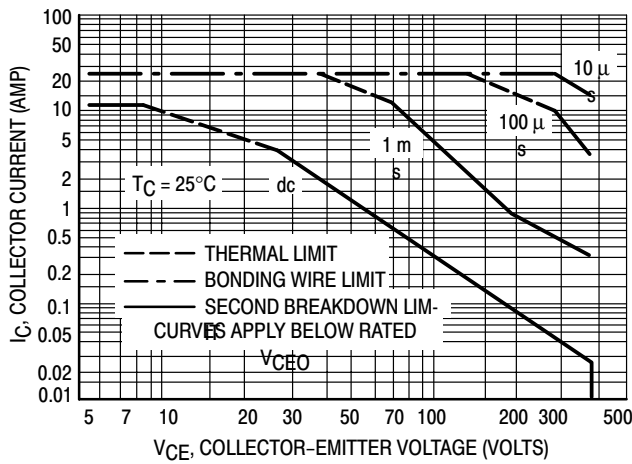
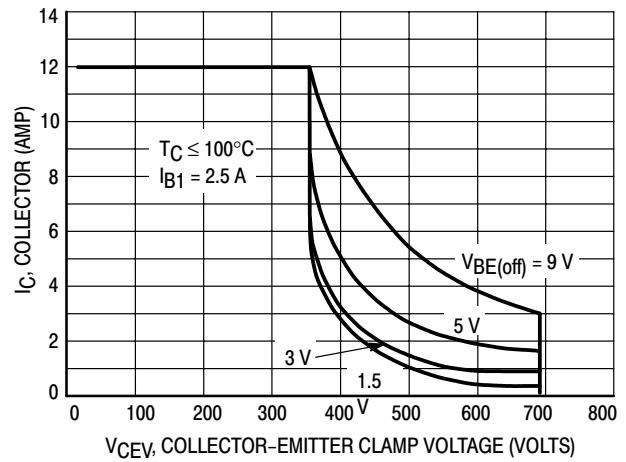
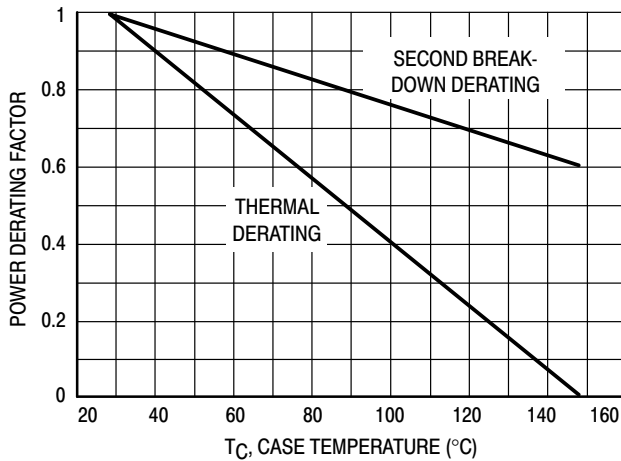
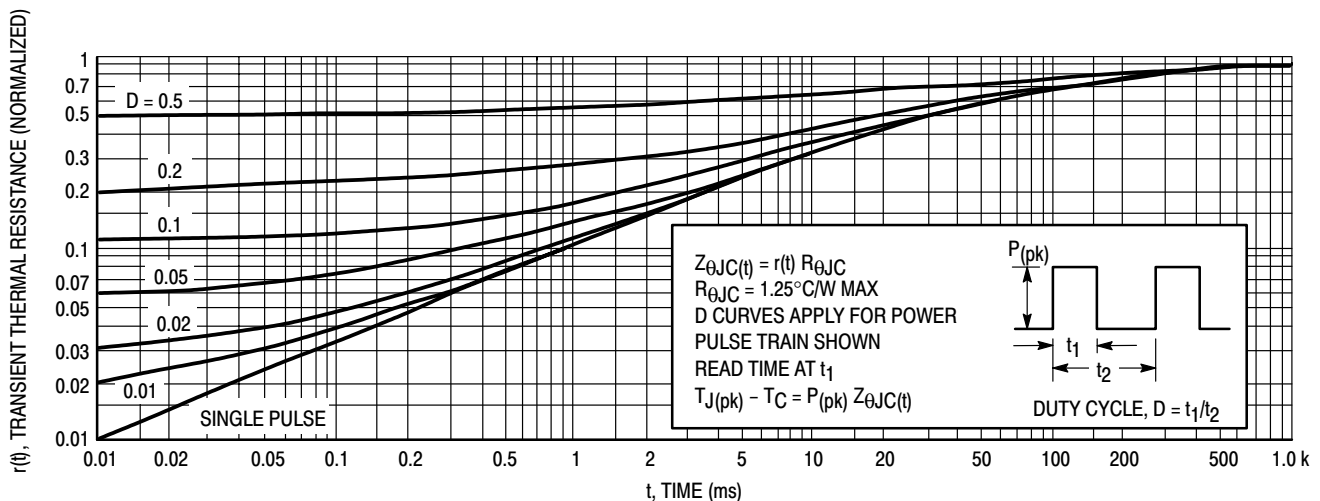

Figure 1. Forward Bias Safe Operating Area
Figure 2. Reverse Bias Switching Safe Operating Area
Figure 3. Forward Bias Power Derating
Figure 4. Typical Thermal Response [ $Z_{\theta JC}(t)$ ]
| Second Breakdown Collector Current with base forward biasedClamped Inductive SOA with Base Reverse Biased | $I_{S/b}$— | See Figure 1See Figure 2 |  |  |  |
The Safe Operating Area figures shown in Figures 1 and 2 are specified ratings for these devices under the test conditions shown.
The data of Figure 1 is based on  $T_C = 25^\circ\text{C}$ ;  $T_{J(pk)}$  is variable depending on power level. Second breakdown pulse limits are valid for duty cycles to 10% but must be derated when  $T_C \geq 25^\circ\text{C}$ . Second breakdown limitations do not derate the same as thermal limitations. Allowable current at the voltages shown on Figure 1 may be found at any case temperature by using the appropriate curve on Figure 3.
$T_{J(pk)}$  may be calculated from the data in Figure 4. At high case temperatures, thermal limitations will reduce the power that can be handled to values less than the limitations imposed by second breakdown. Use of reverse biased safe operating area data (Figure 2) is discussed in the applications information section.
The sustaining or active region voltage requirements in switching applications occur during turn-on and turn-off. If the load contains a significant capacitive component, high current and voltage can exist simultaneously during turn-on and the pulsed forward bias SOA curves (Figure 1) are the proper design limits.
For inductive loads, high voltage and current must be sustained simultaneously during turn-off, in most cases, with the base to emitter junction reverse biased. Under these conditions the collector voltage must be held to a safe level at or below a specific value of collector current. This can be accomplished by several means such as active clamping, RC snubbing, load line shaping, etc. The safe level for these devices is specified as a Reverse Bias Safe Operating Area (Figure 2) which represents voltage-current conditions that can be sustained during reverse biased turn-off. This rating is verified under clamped conditions so that the device is never subjected to an avalanche mode.
2. The turn-on time does not exceed 10  $\mu$ s (see standard pulsed forward SOA curves in Figure 1).
3. The base drive conditions are within the specified limits shown on the Reverse Bias SOA curve (Figure 2).